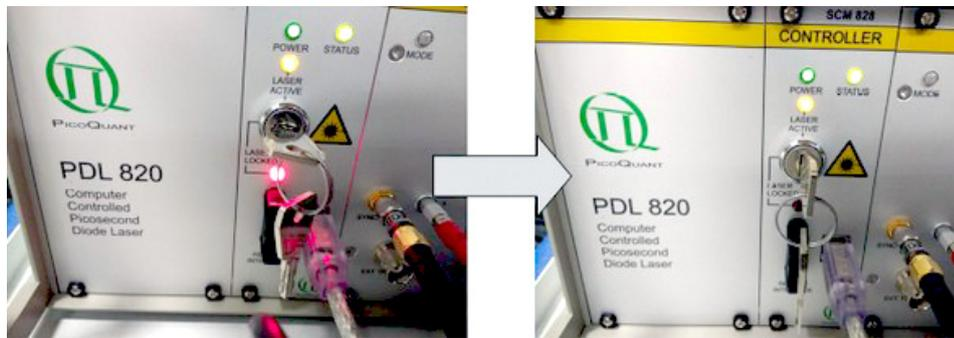

Fig. 28: Turning the laser on.
- Activate the laser by turning the key on the PDL 820 laser driver front panel to the “**laser active**” position (Fig. 28).